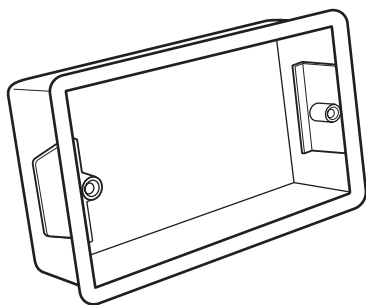

Figure 9.2 Plasterboard switch and socket box.
- ▶ Cables for switches and sockets can be 'built in' to the wall void by drilling the correct-sized hole through the studs and noggin. Special plasterboard switch and socket boxes can be used. These clip to the plasterboard and do not need to be fixed to a stud or noggin (see Figure 9.2).